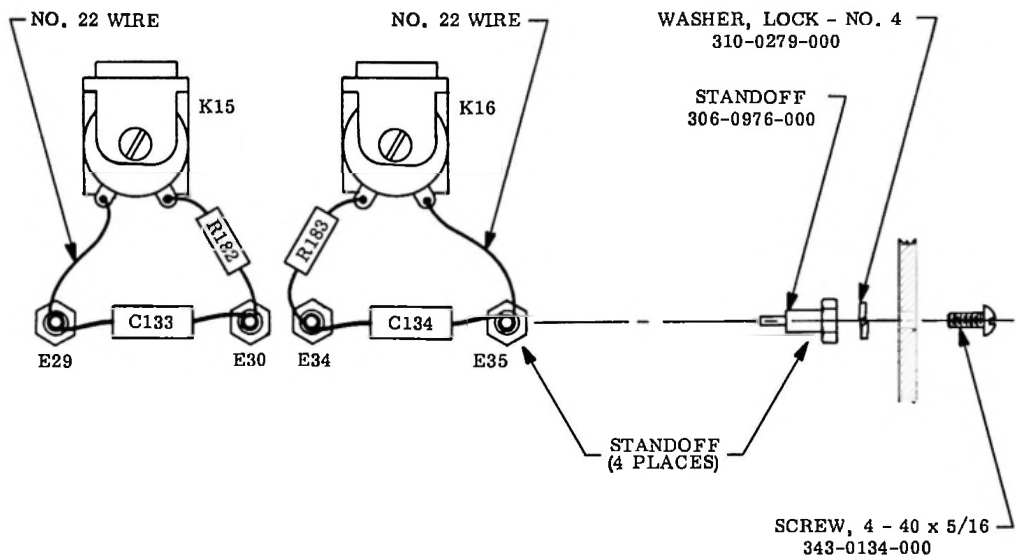

Figure 3. Component Mounting
4. Connect C133 and C134 as shown in figure 3. Be sure and observe polarity.